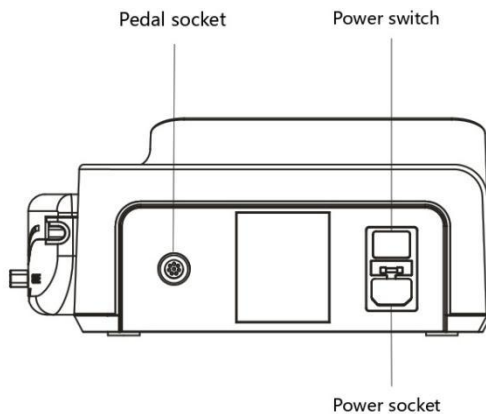

Figure 3
Connect the plug of the foot switch to the foot switch socket(Figure 3).
Plug the output of the power cable into the power socket of the device(Figure 3).
2.12 Turn on the power switch (Figure 3) and when the display is normal, you can use the device. Step down the foot switch, the machine starts to work, and the LED light of the handpiece lights up; Release the foot switch, the device will stop working, and the handpiece LED will go out after 10 seconds.